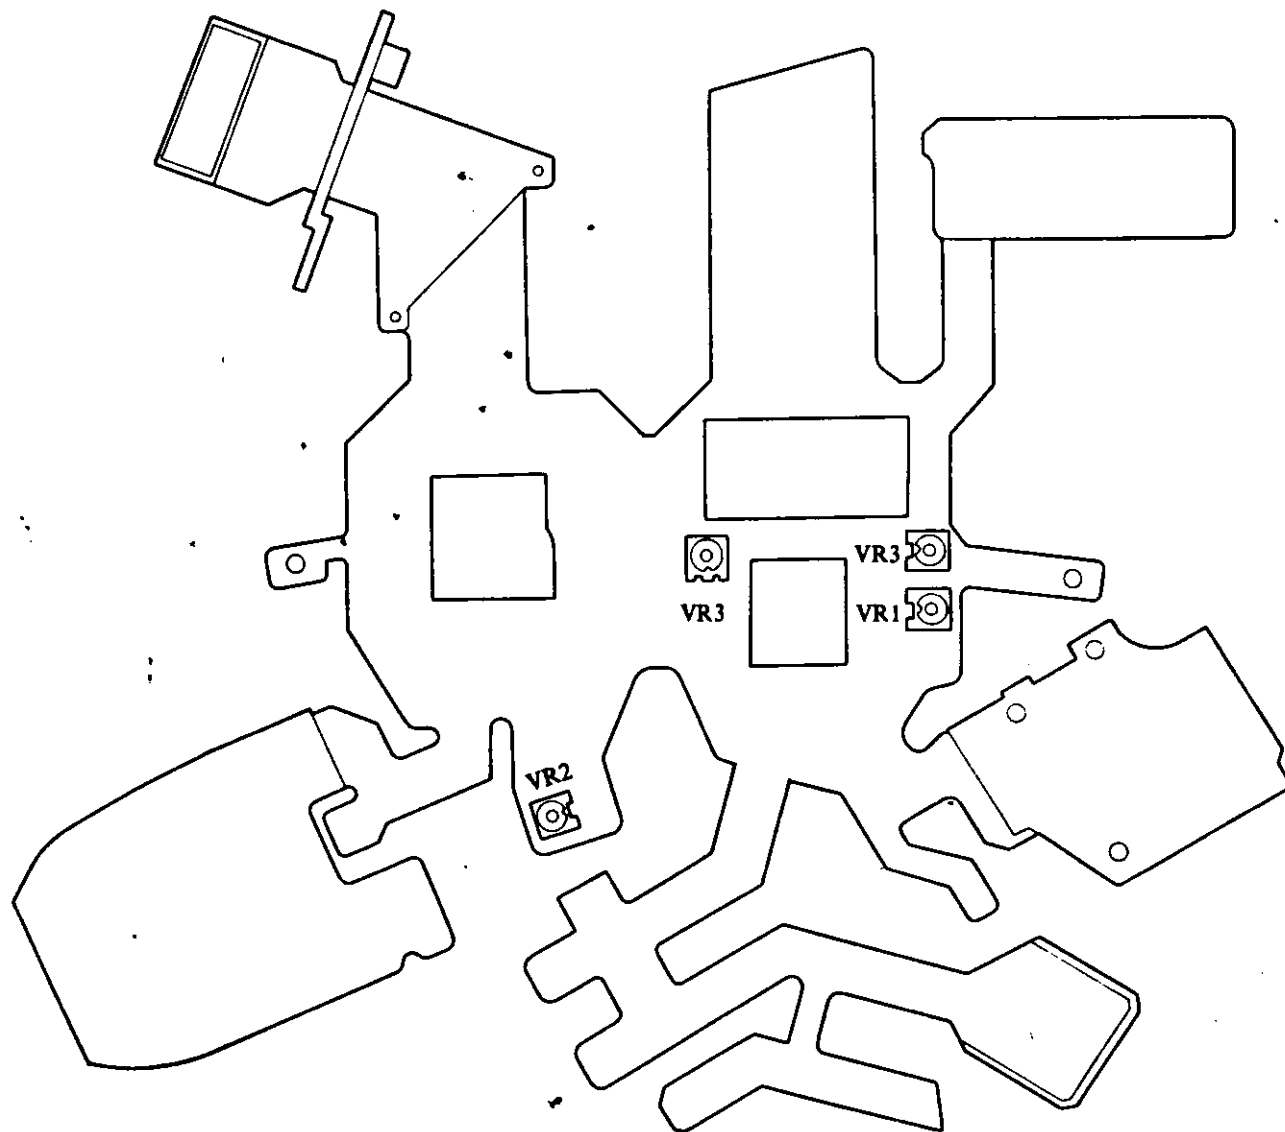

Fig. 60
- 7) Turn VR1 shown in Fig. 60 and adjust EV to "0".